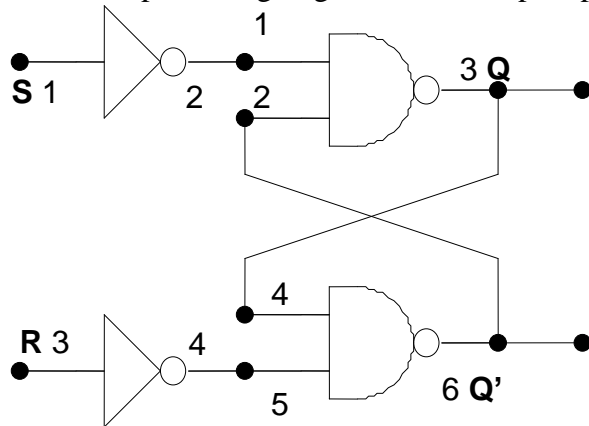

Figure 9.1: NAND Latch
D. Procedure: Exercise 1:- In figure 9.1 and 9.2 connect the circuit as given, change the input variables and take output in voltage form.